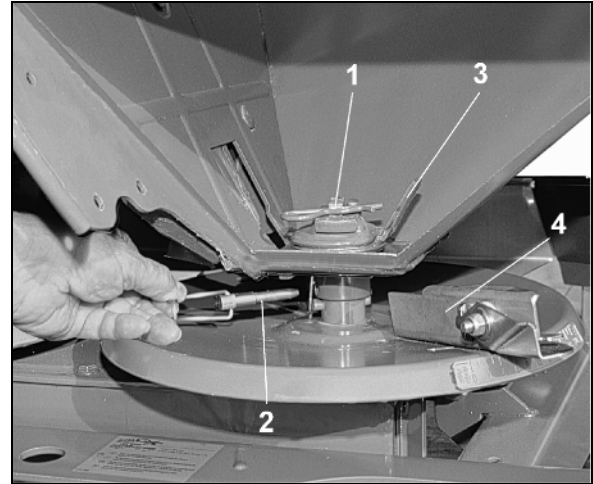

Fig. 88
1. Remove the safety splint (Fig. 88/1).
2. Remove the agitator head extension (Fig. 88/2).